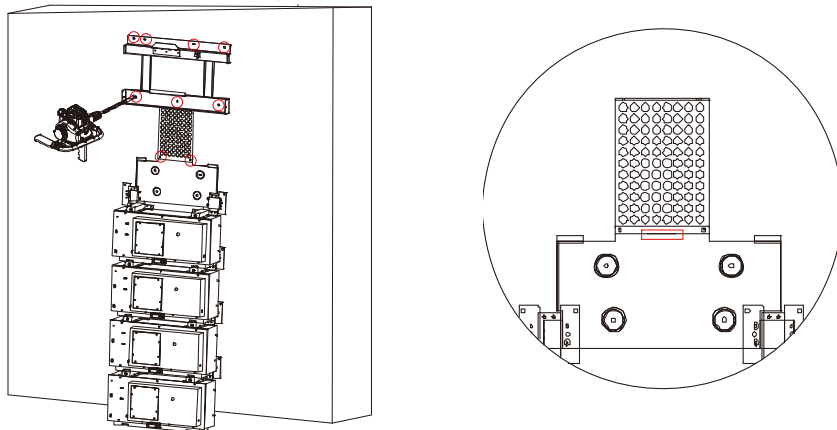

**Figure 19 Fixing the Rear Bracket of HV50056**
**Step 9** Fix the inverter B bracket as shown in Figure 19.